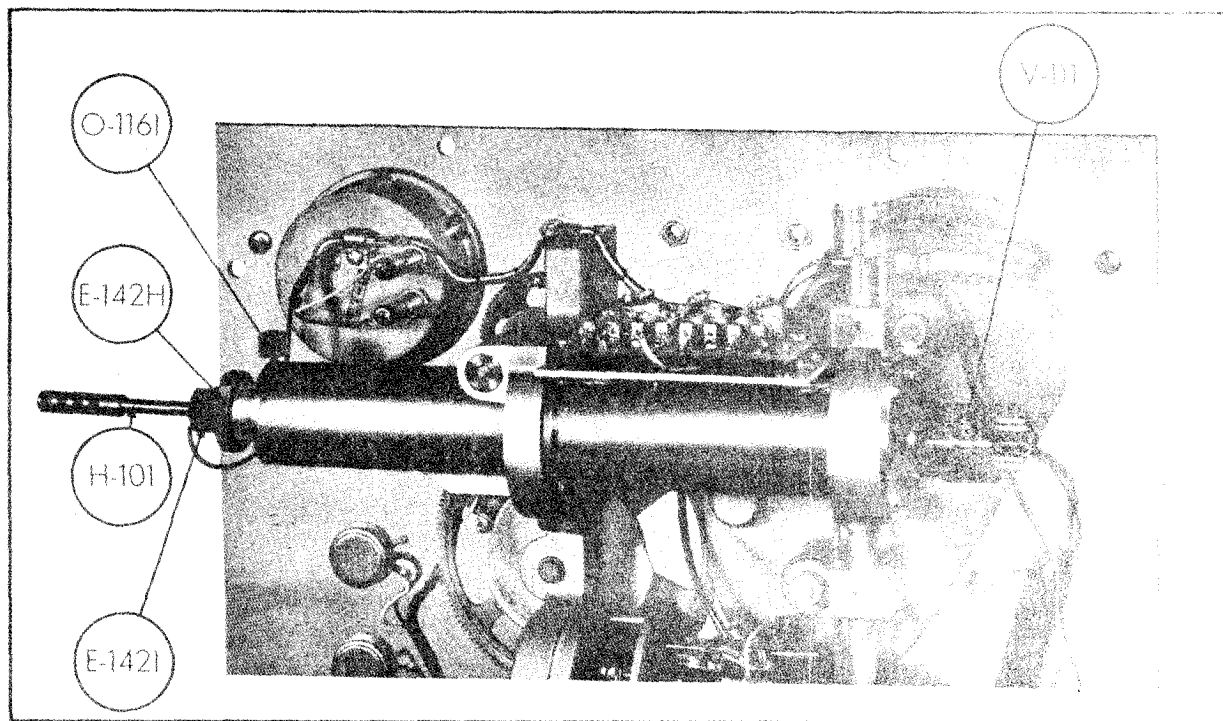

Figure 4-4. Special Tool Attached to End of E-142 I
(4) Attach tool to end of the tube contact assembly E-142I as shown in figure 4-4.